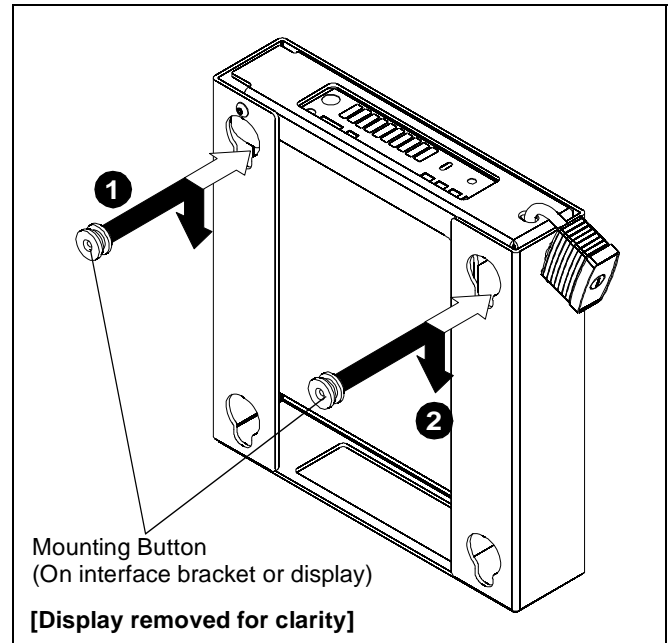

Figure 6
1. While supporting each side of display, align four mounting buttons on display or interface bracket with four teardrop slots in CPU holder (See Figure 6).